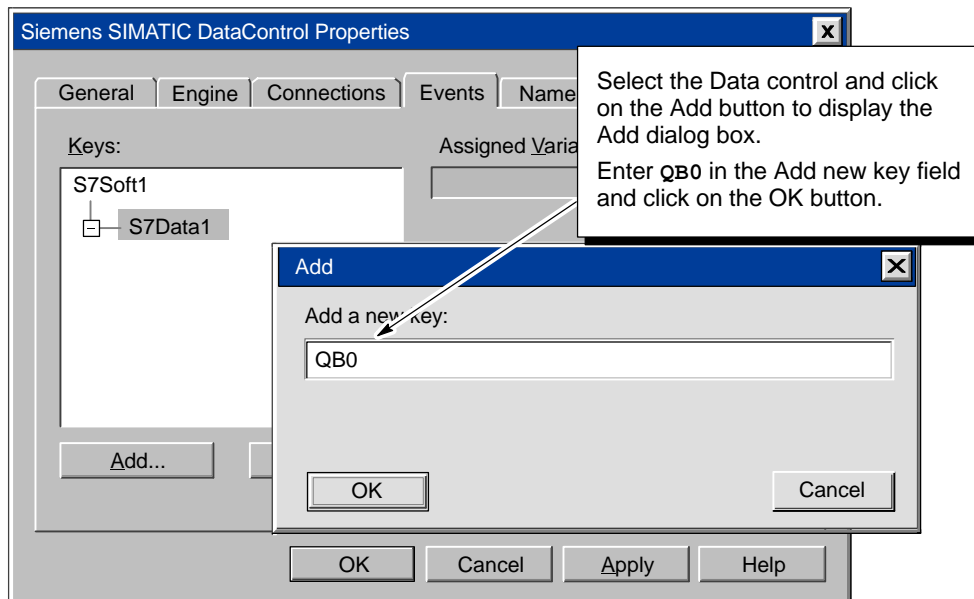

Figure 1-15 Adding an Event Key to the Data Control
2. Click on the Add button to add a new event key. See Figure 1-15. In the Add dialog box, enter QB0 in the Add a new key field.